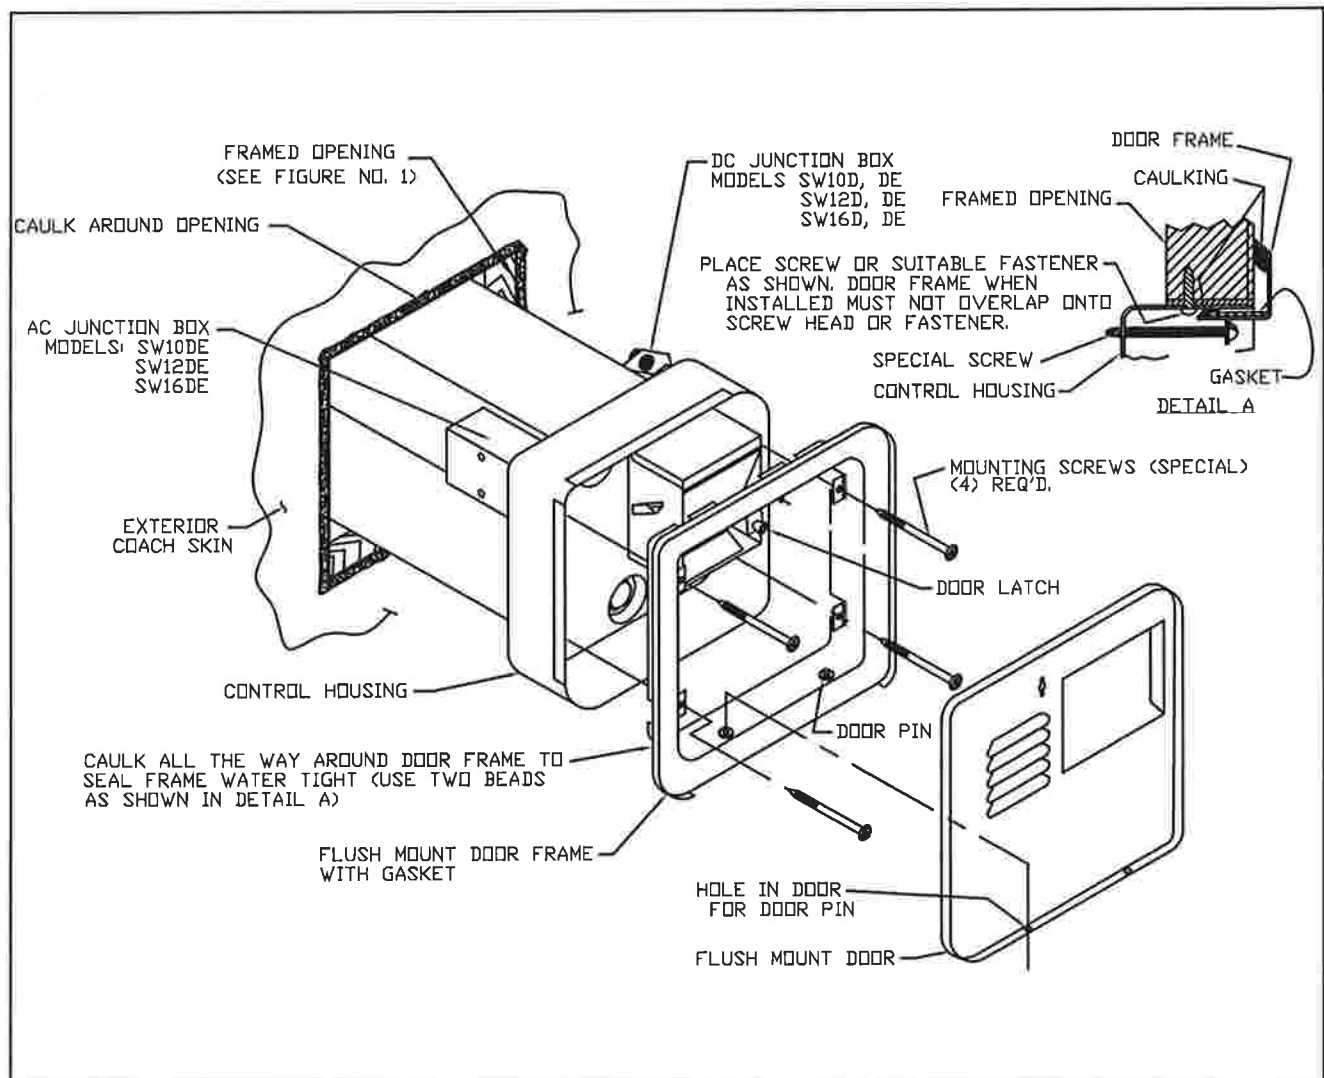
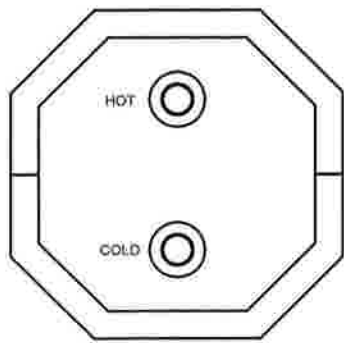
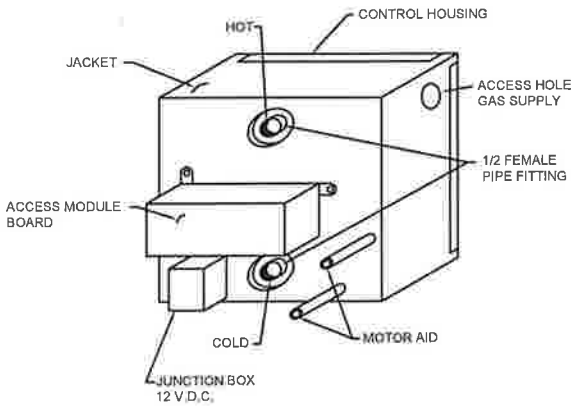
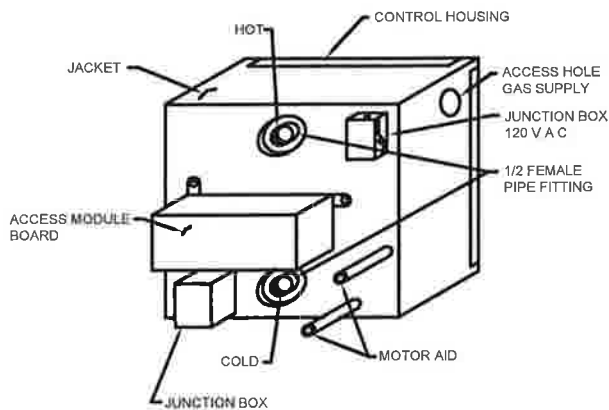

Figure 2
Figure 3
Figure 4
Figure 5
INSTALLATION USING FLUSH MOUNT FRAME & DOOR (See Figure 2 for Illustration)
A. Water connections are made at the rear of the water heater. Refer to Figure 3 for all models except SW10DM, SW10DEM, SW12DEM and 16DEM. For SW10DM and SW10DEM, SW12DEM AND SW16DEM, refer to Figure 4 or 5. Connect the hot and cold water lines to the 1/2" female pipe fitting provided on rear of tank. These fittings are marked "HOT" and "COLD". **NOTE:** Inside each fitting is a plastic fill tube. Its purpose is to enhance water circulation. **DO NOT REMOVE PLASTIC FILL TUBE.**
B. Refer to Figure 2 for location of D.C. junction box on models SW10D, SW10DE, SW12D, SW12DE, SW16D and SW16DE. Refer to Figure 4 and 5 for location of D.C. junction box on models SW10DM, SW10DEM, SW12DEM and SW16DEM.
B. Refer to Figure 2 for location of A.C. junction box on models SW10DE, SW12DE or SW16DE. Refer to Figure 5 for A.C. junction box on model SW10DM, SW10DEM, SW12DEM or SW16DEM.